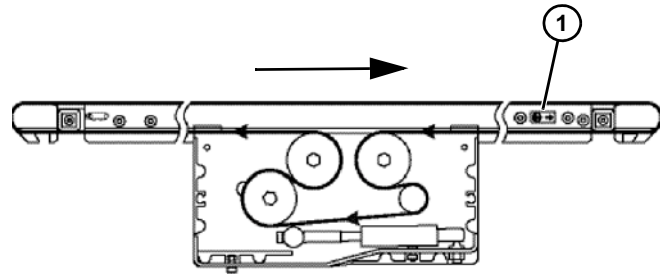

Figure 69
On a center drive conveyors, belt travel direction is identified by an arrow decal on the side of the conveyor (**Figure 69, item 1**) & (**Figure 70, item 1**).